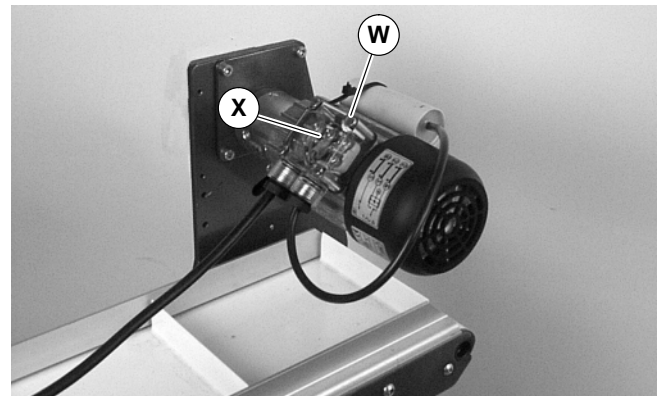

Figure 14
- a. Loosen terminal box screws (W of Figure 14) and remove cover (X).